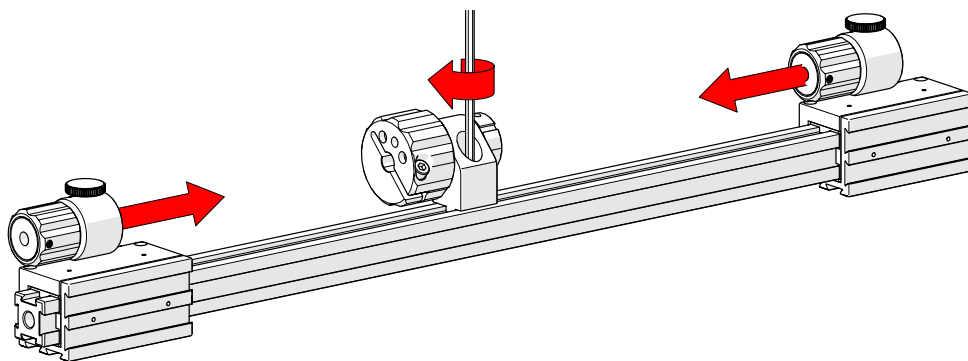

Fig. 140 - Attach slide assemblies and tighten lock screw
3. Tighten the lock screw on the main knob bracket (Fig. 140). Ease the two sliders onto either end of the frame bar and push the sliders to the desired position on the frame bar (Fig. 140). The slider's friction fit requires an appropriate level of force to position the sliders.